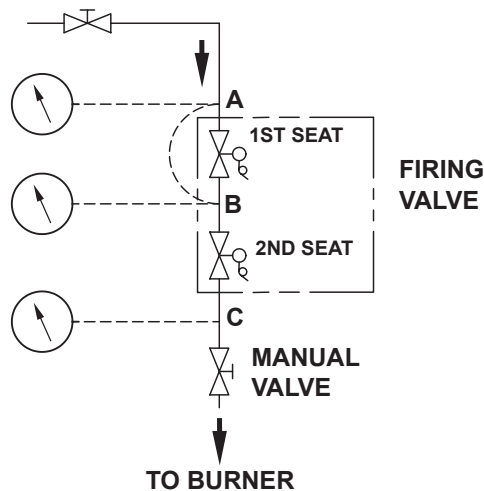

Figure 68. Leak Test Procedure
Test point C is a bleedle valve located downstream of both automatic gas valve seats and upstream of the manual valve. See **Figure 68**.
- a. Close downstream manual gas valve. See **Figure 68**. Turn power on.